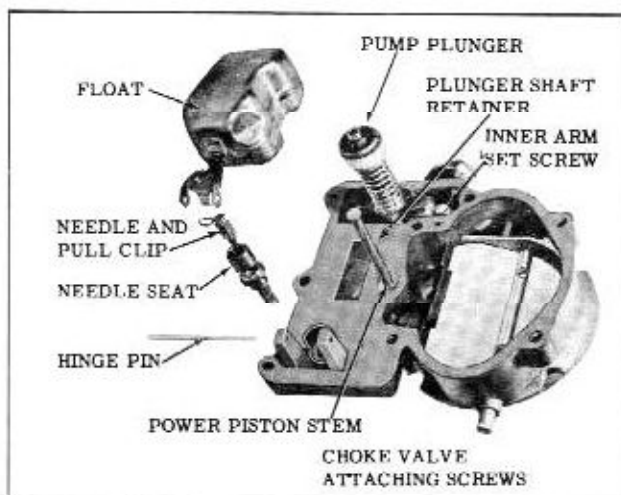

Fig. 8-140 Air Horn Assembly
8. Invert the air horn and place on a flat surface, then remove the float hinge pin, float and needle assembly. (Fig. 8-140)